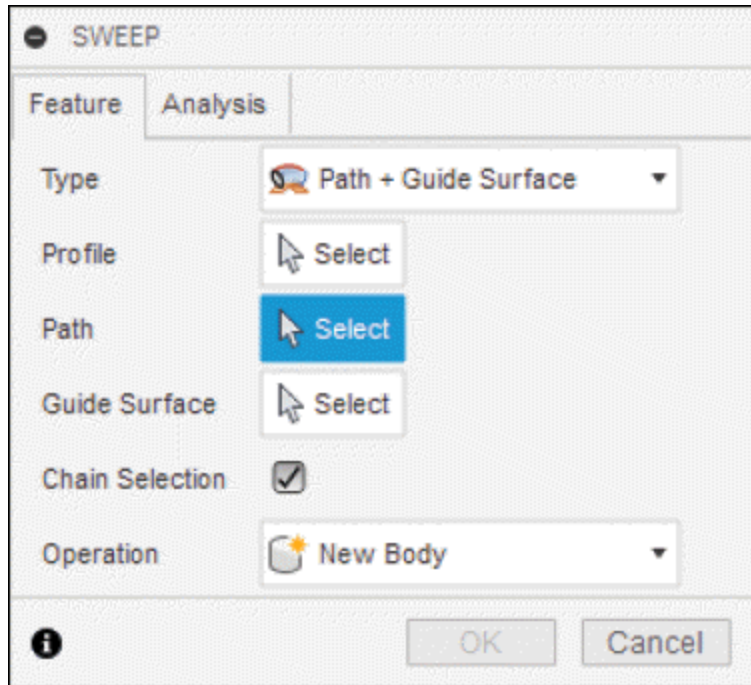

Figure-66. Path + Guide Surface option
- Select the **Path + Guide Surface** option of **Type** drop-down from **SWEEP** dialog box. The options in the dialog box will be displayed as shown in Figure-66.